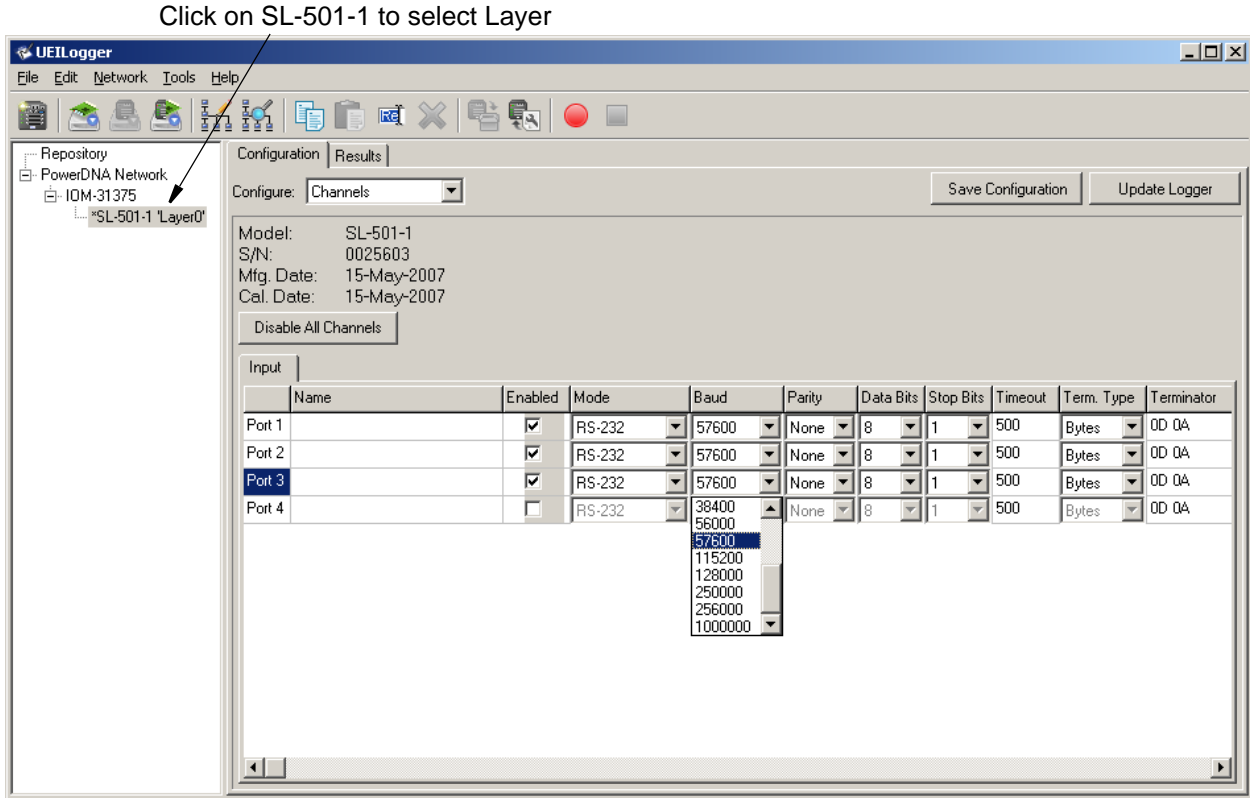

Figure 2-32. Configuring the SL-501 Ports
STEP 1: In the left window of the Logger screen, click on the Layer marked SL-501-1. Then, in the right hand window, click on the *Configuration* tab. In the *Show* box, pull down the menu and select *Channels*. The screen shown in **Figure 2-32** then appears.